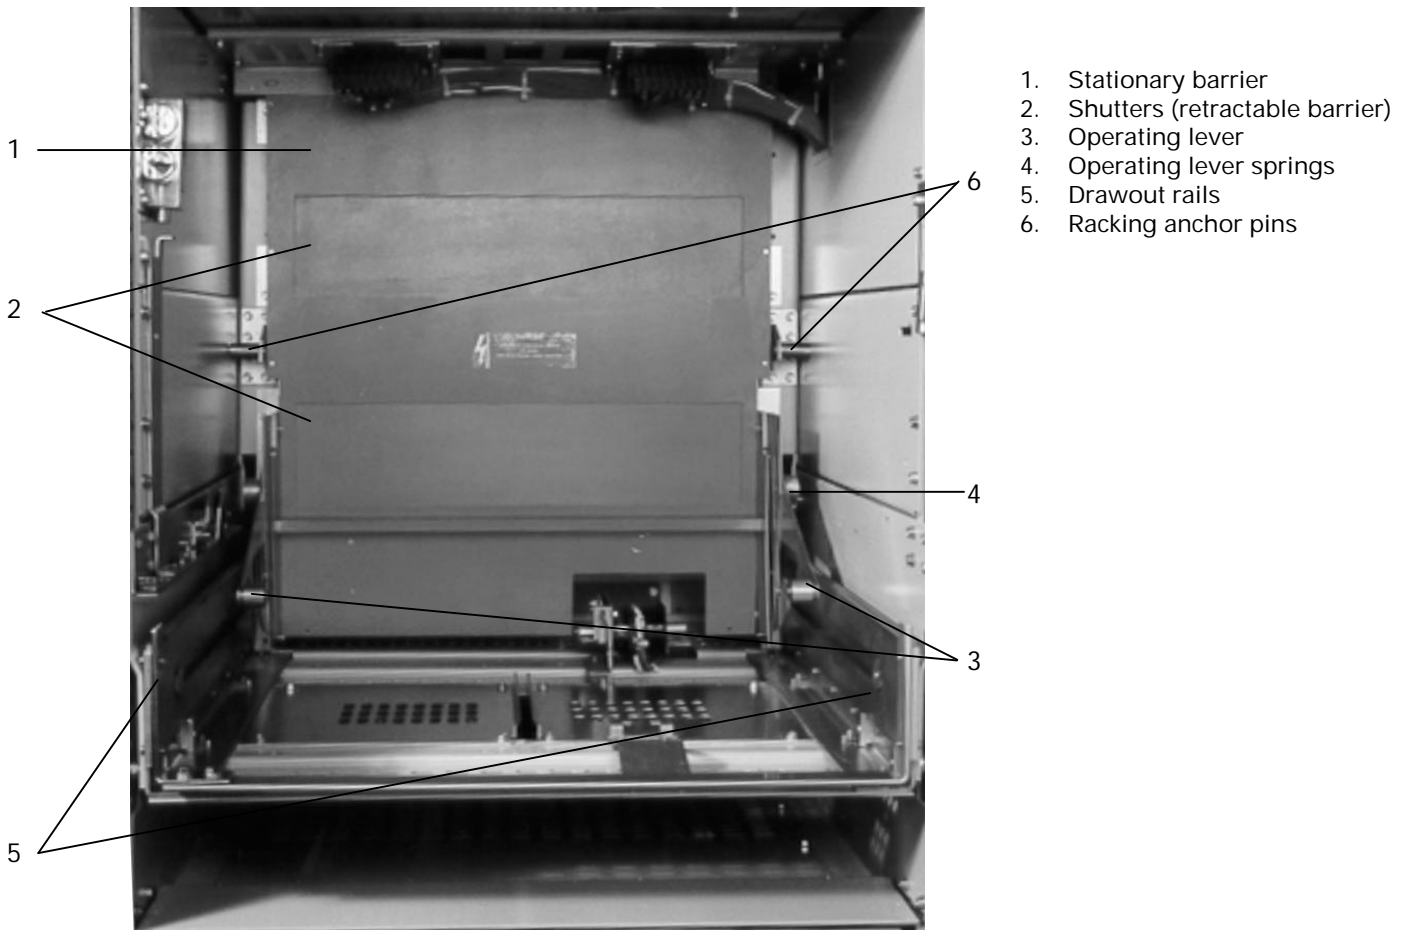

Fig. 3-6. Circuit breaker compartment (30-inch wide) with shutters
Circuit breakers mounted in 22-inch wide compartments (EG-08, EG-16, EG-20) are supported on drawout rails (7), Fig. 3-5. Larger EG-32 and EG-40 circuit breakers and fuse rollout carriages are installed in 30-inch wide compartments and are supported on drawout rails (5), Fig. 3-6. The EG-50 circuit breaker is installed in a 38-inch wide compartment and is supported on drawout rails (similar to Item 5, Fig. 3-6).
The breaker racking arm slots engage fixed racking anchor pins (6), Fig. 3-6, mounted in the breaker compartment. As the racking arms are rotated by operation of the breaker racking crank, the breaker is pulled into the compartment, and locked in its final connected position.